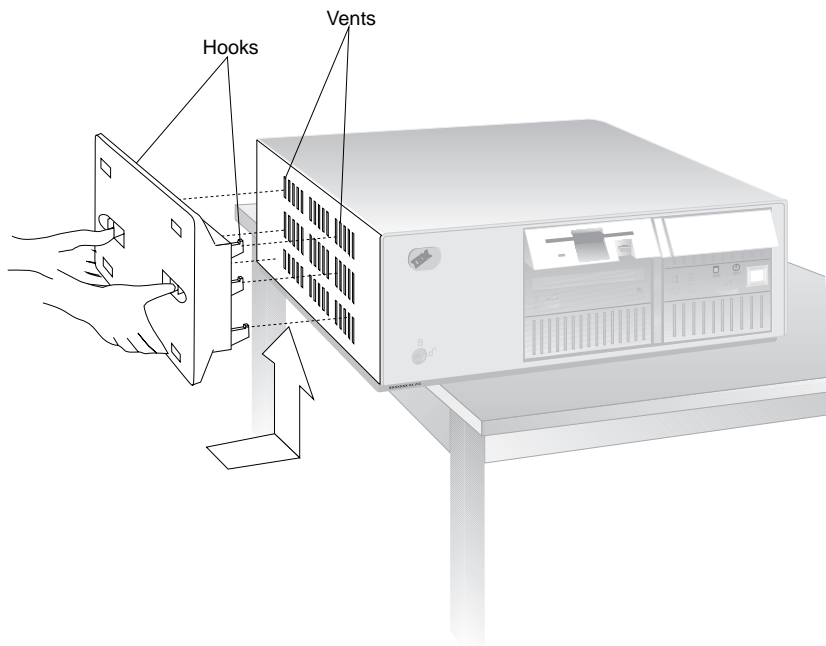

Figure 1-83. Floor Stand
- b. ____ **Locate** the hooks on the floor stand and the special vents on the left side of the Service Processor (see Figure 1-83).